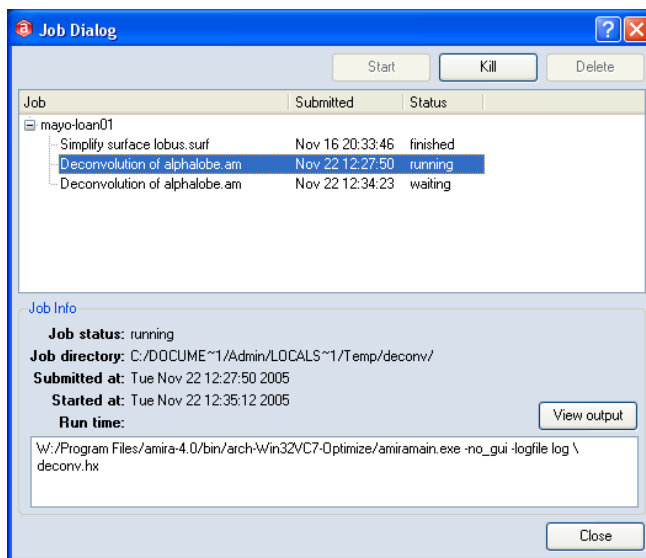

Figure 1.7: The amira job dialog showing a pending deconvolution job.
- Press the *Submit* button of the deconvolution dialog. After a few seconds the amira batch job dialog appears, compare Figure 1.7.